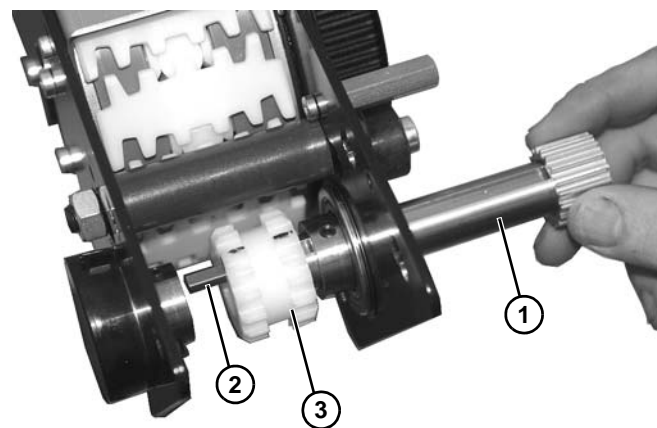

Figure 167
16. Remove drive shaft (**Figure 167, item 1**), making certain not to loose key (**Figure 167, item 2**) when removing gear (**Figure 167, item 3**).